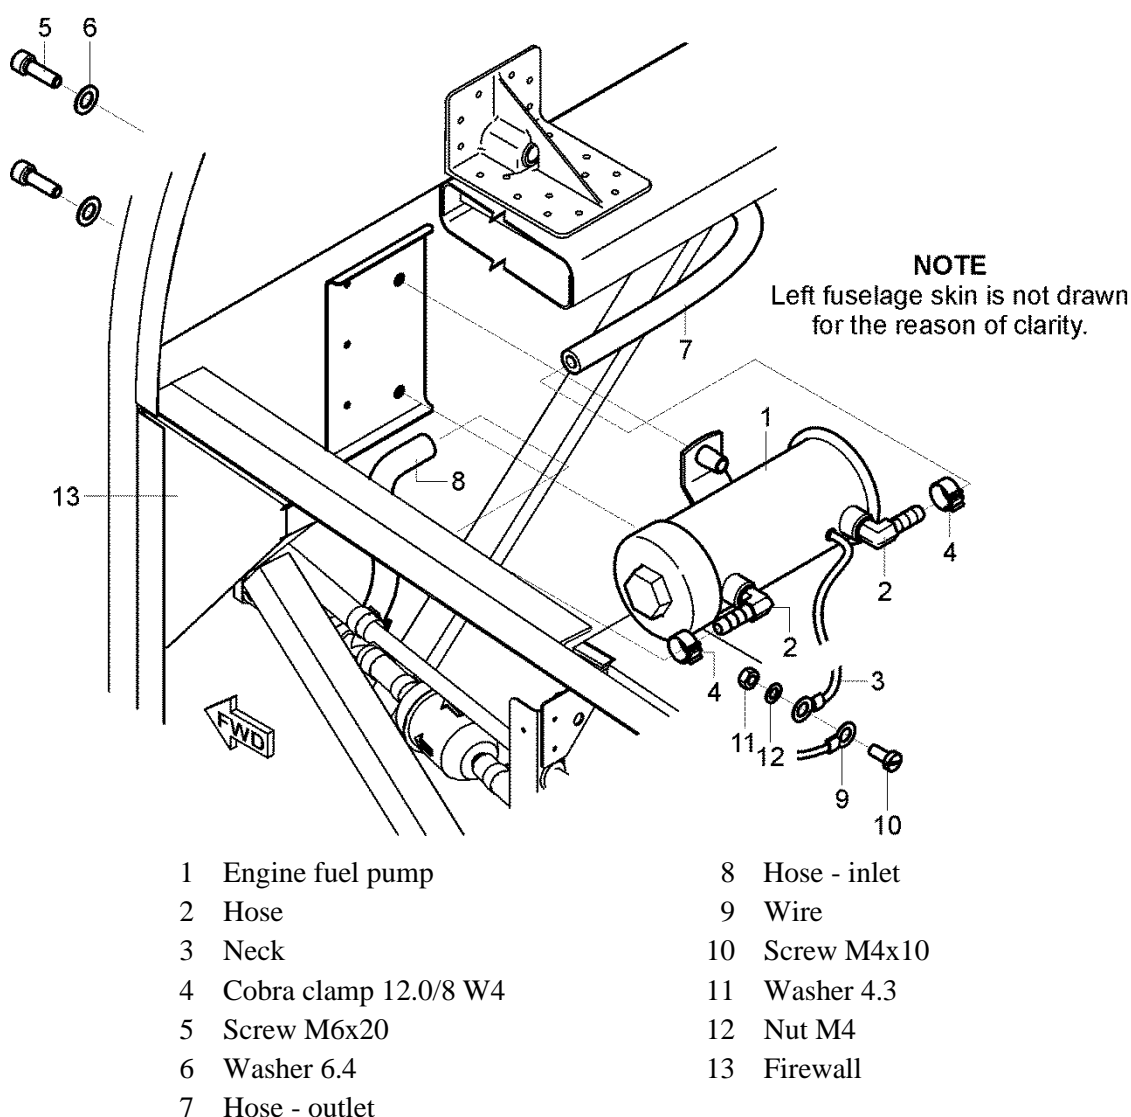

Fig. 2 – Electrical pump installation
- 1.3.10.1 Clean the thread of the screws (5, Fig. 2) and washers (6) with acetone, put the washers on the screws.